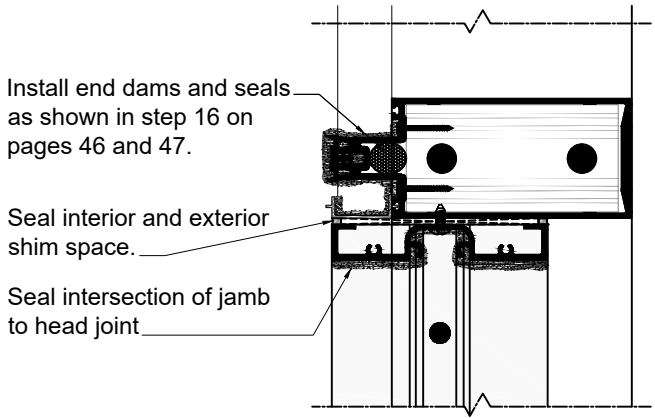

Fig. 48.3
- Seal the top of the jamb subframe as shown in Fig. 48.3.